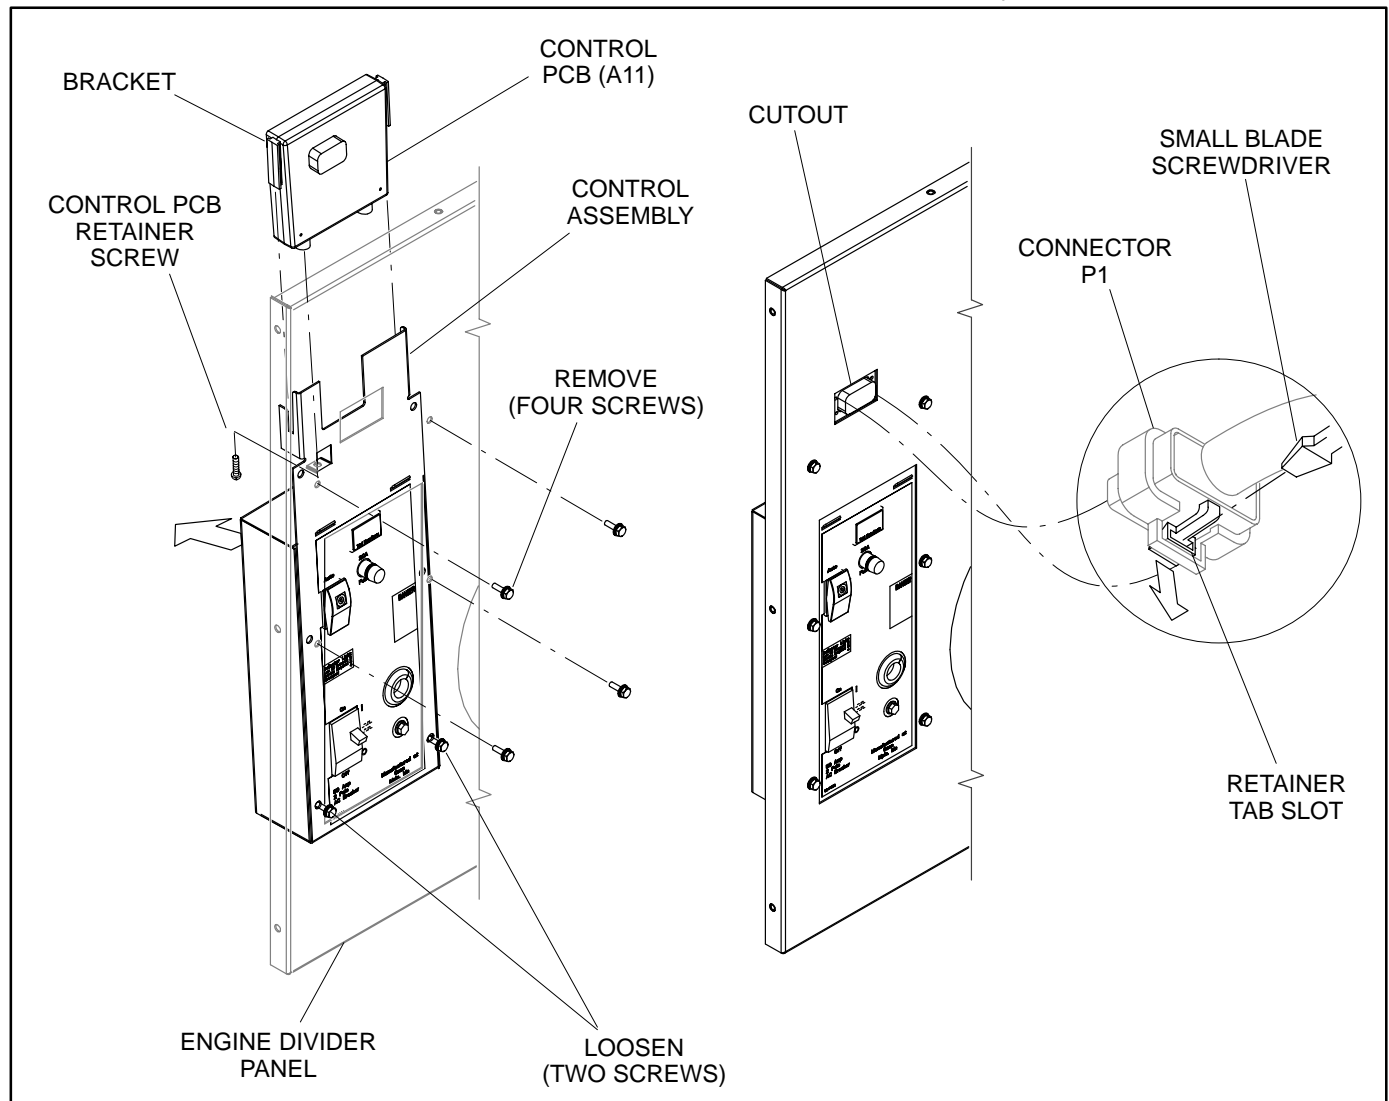

FIGURE 9-1. REMOVING CONTROL PCB
4. Remove connector P1 from the control PCB (Figure 9-1). To remove connector, insert small blade screwdriver into slot of connector retain-